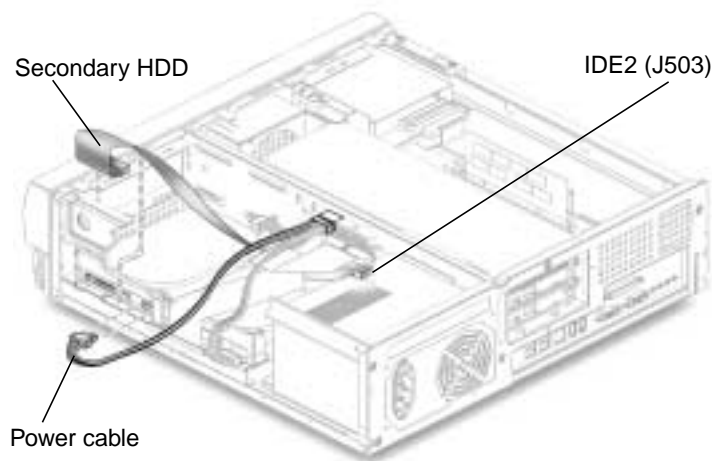
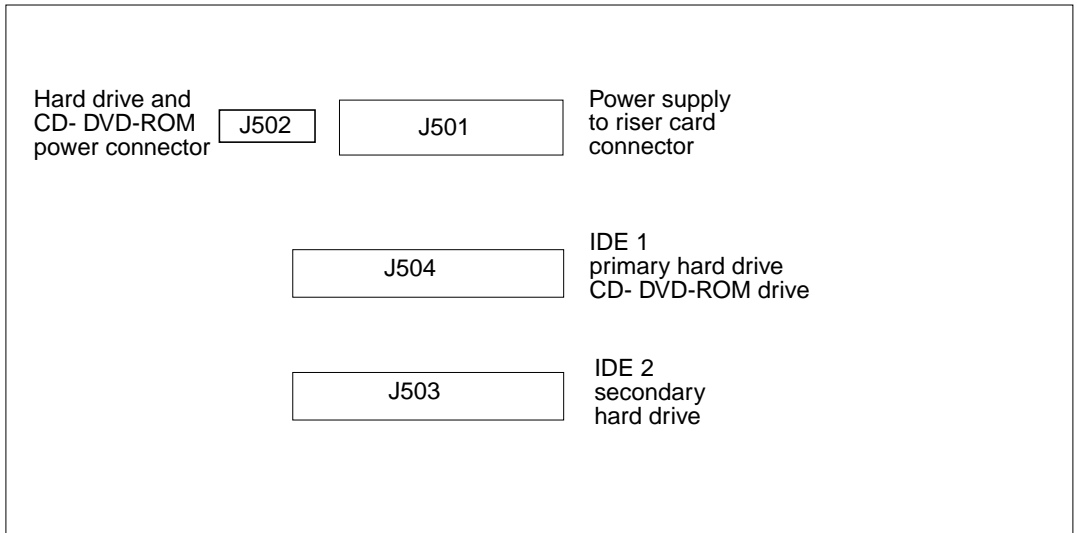

FIGURE 7 Secondary Hard Drive Cabling Configuration
FIGURE 8 Sun Blade 100 Riser Card
11. Connect the secondary IDE cable connector to riser board connector IDE2 (J503). See FIGURE 7 and FIGURE 8.
14. Connect the power cable to the secondary hard drive (see FIGURE 7).